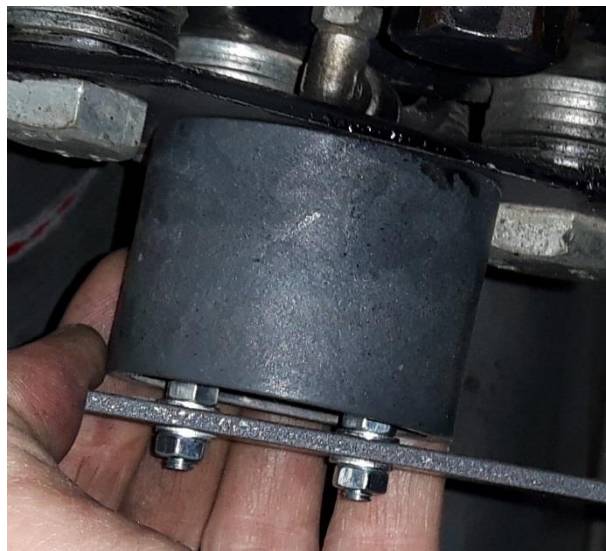
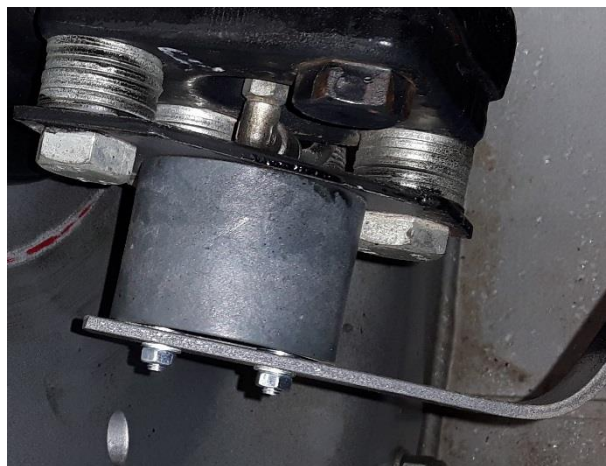

FIGURE 28 CENTRE AND FRICTION CHECK OF WHEEL ANGLE SENSOR
FIGURE 29 CORRECT MOUNTED WHEEL ANGLE SENSOR
9. Make sure the sensor disc falls nice and flat into the sensor housing and the strip also lies flat and under tension on both sides of the disc positioned against the sensor housing. Press with your thumb against the end of the strip and check if the strip bounces back easily without friction (Figure 28 and Figure 29). The sensor disc may only have a little bit of friction in the sensor housing.
16. Check again if the sensor disc lies under slight pretention against the sensor housing (Figure 28). Push with your thumb to the end of the wheel angle sensor strip to check this. The sensor disc may only have a little bit of friction in the sensor housing. The sensor disc should bounce back easily and without friction (Figure 29).